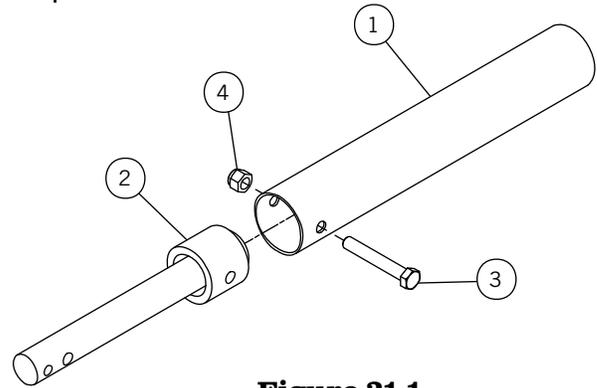

Figure 21-1
- 1) **Figure 21-1.** Drill 3/8" hole through both walls of roll pipe at 3/4" from end. Insert wobble joint, align holes, and secure wobble joint to roll pipe with 3/8" bolt and lock nut.